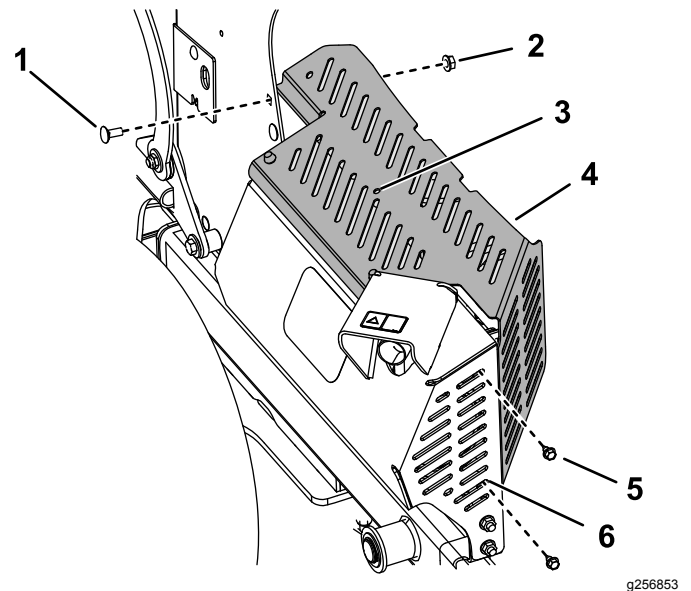

Figure 10
4. **Loosely** install the heat shield over the muffler guard, with the tabs inside the muffler guard and to the inside of the console tower, using the 2 thread-forming bolts (1/4 x 1/2 inch) and the carriage bolt and nut you removed previously (Figure 10).
5. Using the center hole in the heat shield as a template, drill a hole (7/32 inch) into the muffler guard (Figure 10).